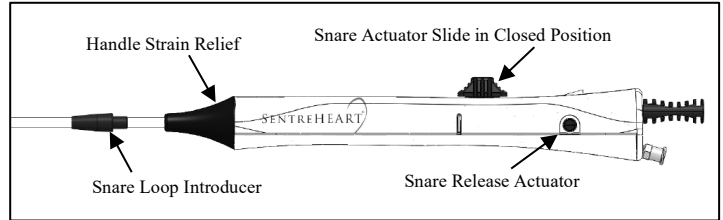

Figure 2 Closing the Delivery Snare
8. Close the LARIAT RS Delivery Snare by sliding the Snare Actuator Slide located on the top of the handle as shown in Figure 2. Retract until the Snare Actuator Slide stops as indicated by the "-" symbol or until resistance is felt.